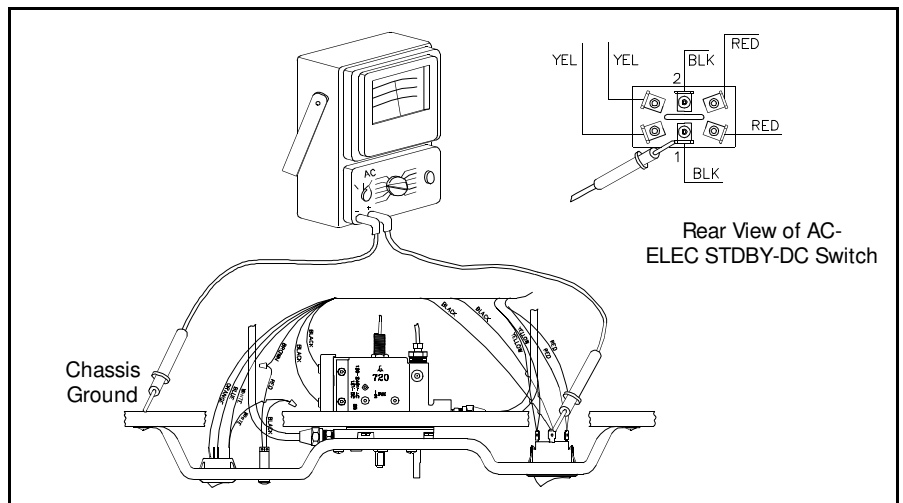

Figure 3.36 120 Volt Check at Switch's Center Contacts
7. Check for 120 Volts at Point 1 and ground and Point 2 and ground of switch as shown in Figure 3.36. Normal readings should show 120 Volts on both terminals. If 0 Volts are read, check wiring connections.